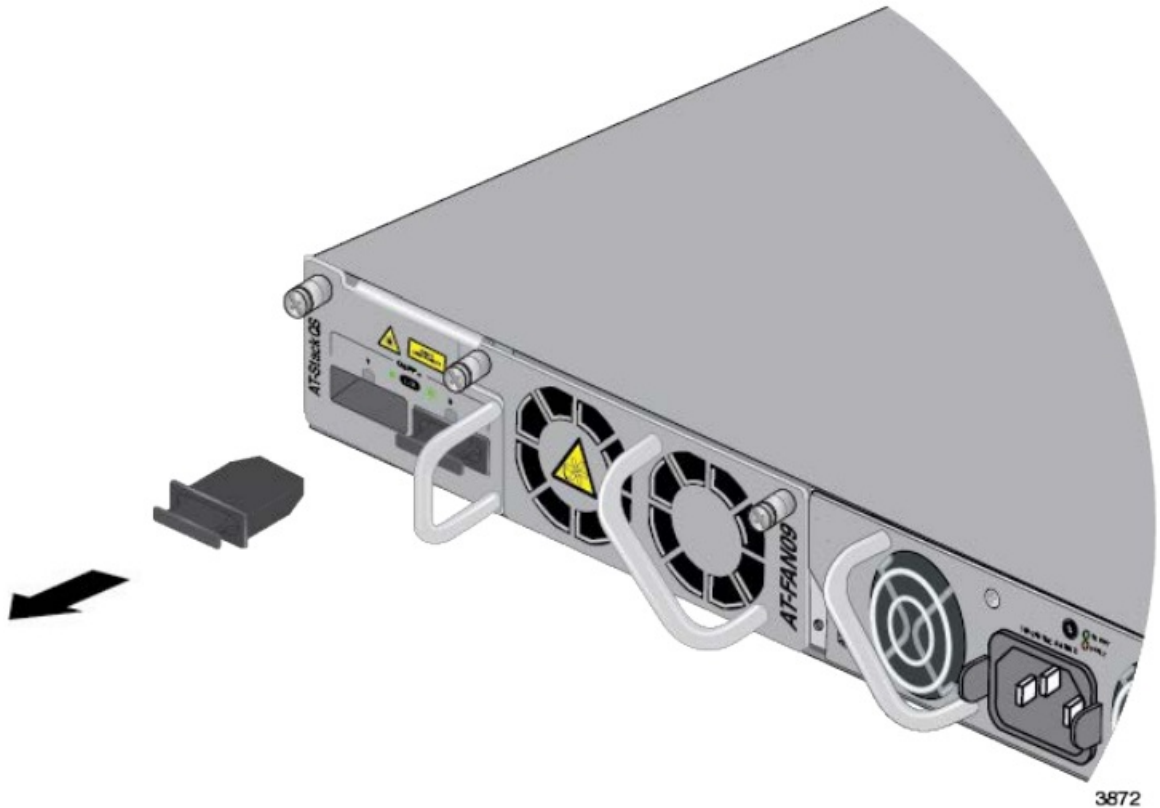

Figure 80. Removing the Dust Cover from Port 1
1. Remove the dust cover from a port on the AT-StackQS Card. Refer to Figure 80.